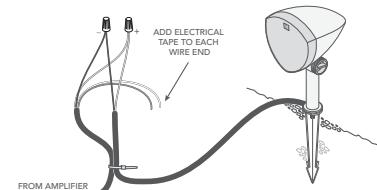

Figure 4
2. Starting at the speaker furthest from the amplifier, strip 3/4" of insulation on the cut end of the burial wires for the appropriate amp channel according to the tables below, then strip insulation from the ends of the corresponding speaker's pigtail. Wrap any unused wires in electrical tape to protect them from moisture and short-circuiting (see Figure 4).
3. Connect the burial cable to the speaker pigtail using a wire tie (see Figure 4).